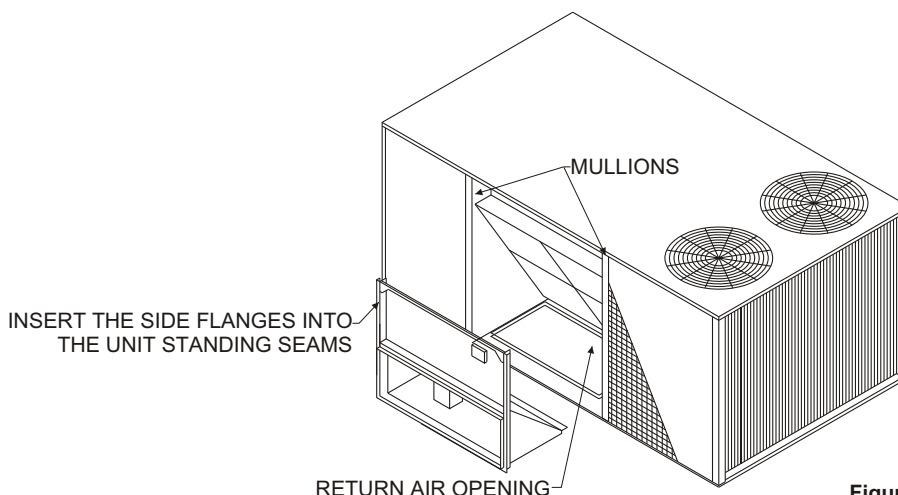

Figure 2
7. Route wiring to the right side of the economizer and slide it into the unit. Insert economizer side flanges into the unit standing seams. Using existing screws from bottom of discarded panel to secure economizer bottom flange to unit. **See Figure 2.**